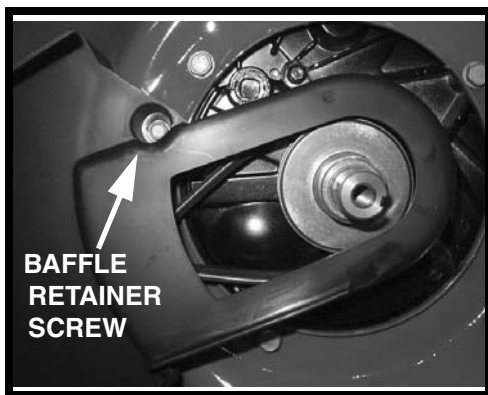

FIGURE 1
7. Using a 3/8” socket & ratchet remove the self-tapping screw that secures the deck baffle. See Figure 1.